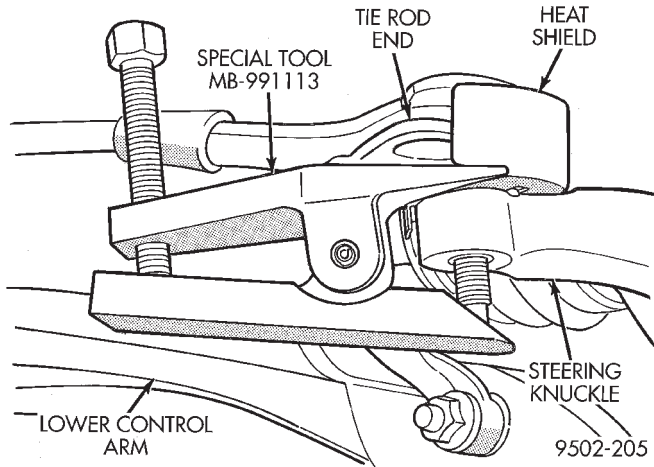

Fig. 6 Tie Rod End Removal From Steering Knuckle
(7) Remove both tie rod end studs, from the steering knuckles, using Remover, Special Tool MB-991113 (Fig. 6).